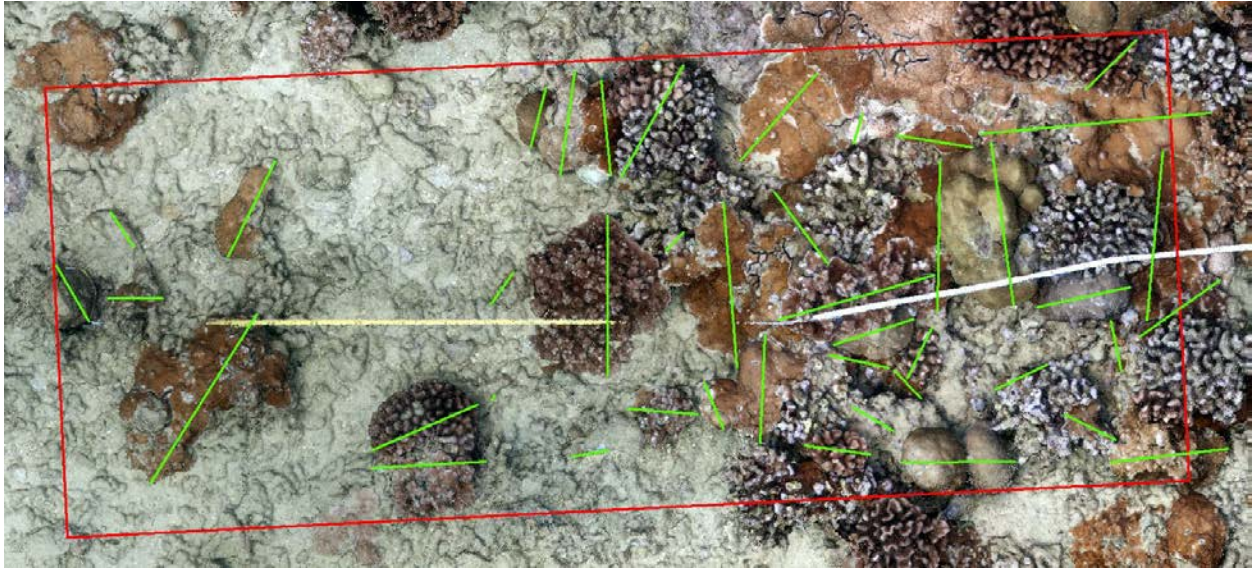

Figure 28. Screenshot in ArcMap of maximum diameter lines drawn on all the colonies in the segment.
5. Continue this until all colonies within the desired segments are identified (Figure 28).